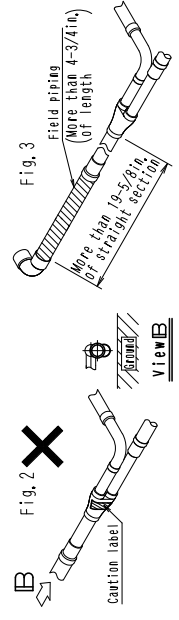

Fig. 1 Fig. 2
- Install the joint horizontally so that the caution label attached to joint comes to the top. (See Fig. 1.)